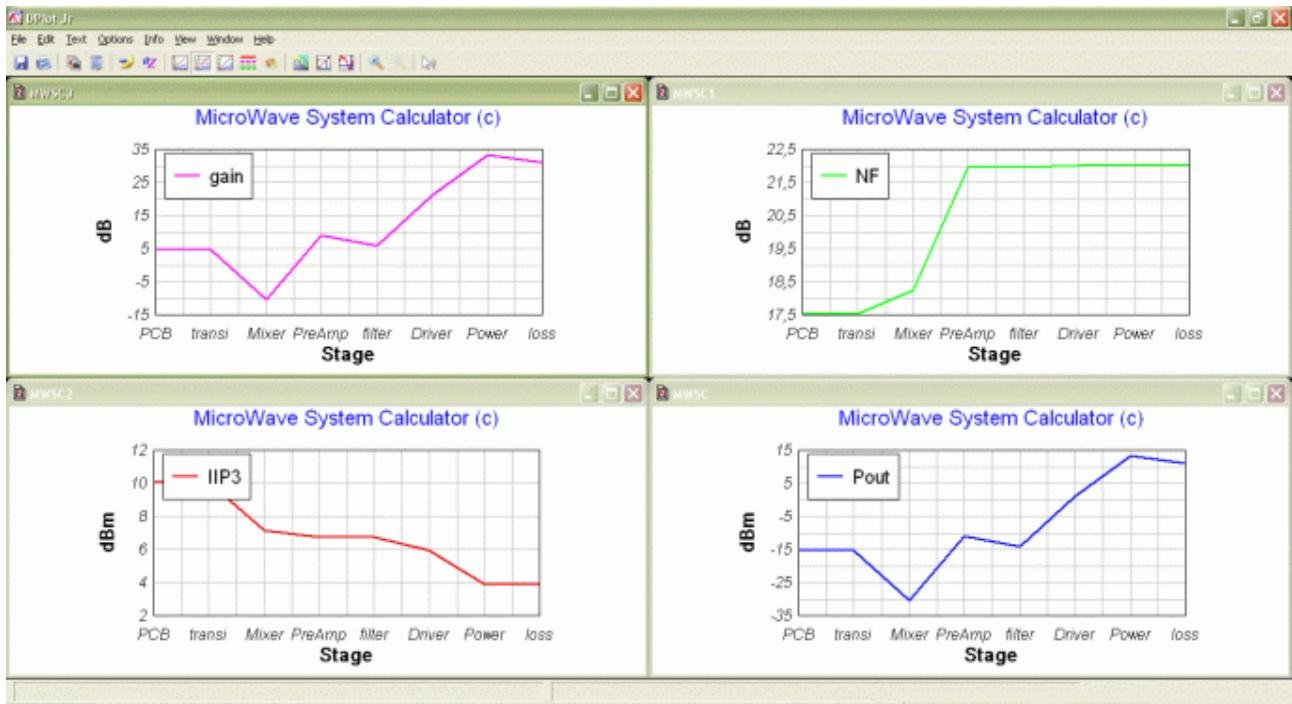

Figure 2: Mystic output displayed by dPlot
- The right window is the graphical representation of the main system parameters (see Figure 2). Graphical output is provided by the use of the software *dPlot jr* and is very effective to allow to check which component is particularly critical for your application.
- output plots related to main output quantities (see Figure 2)